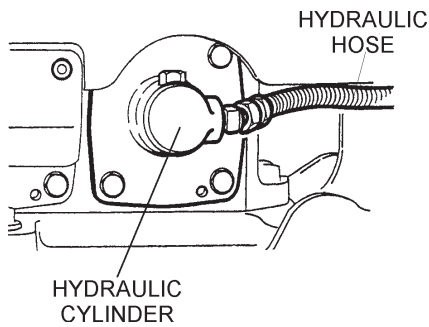

Figure 32. Hydraulic Oil Cylinder/Hose
- Disconnect the hydraulic hose (Figure 32) connected to the hydraulic oil cylinder.